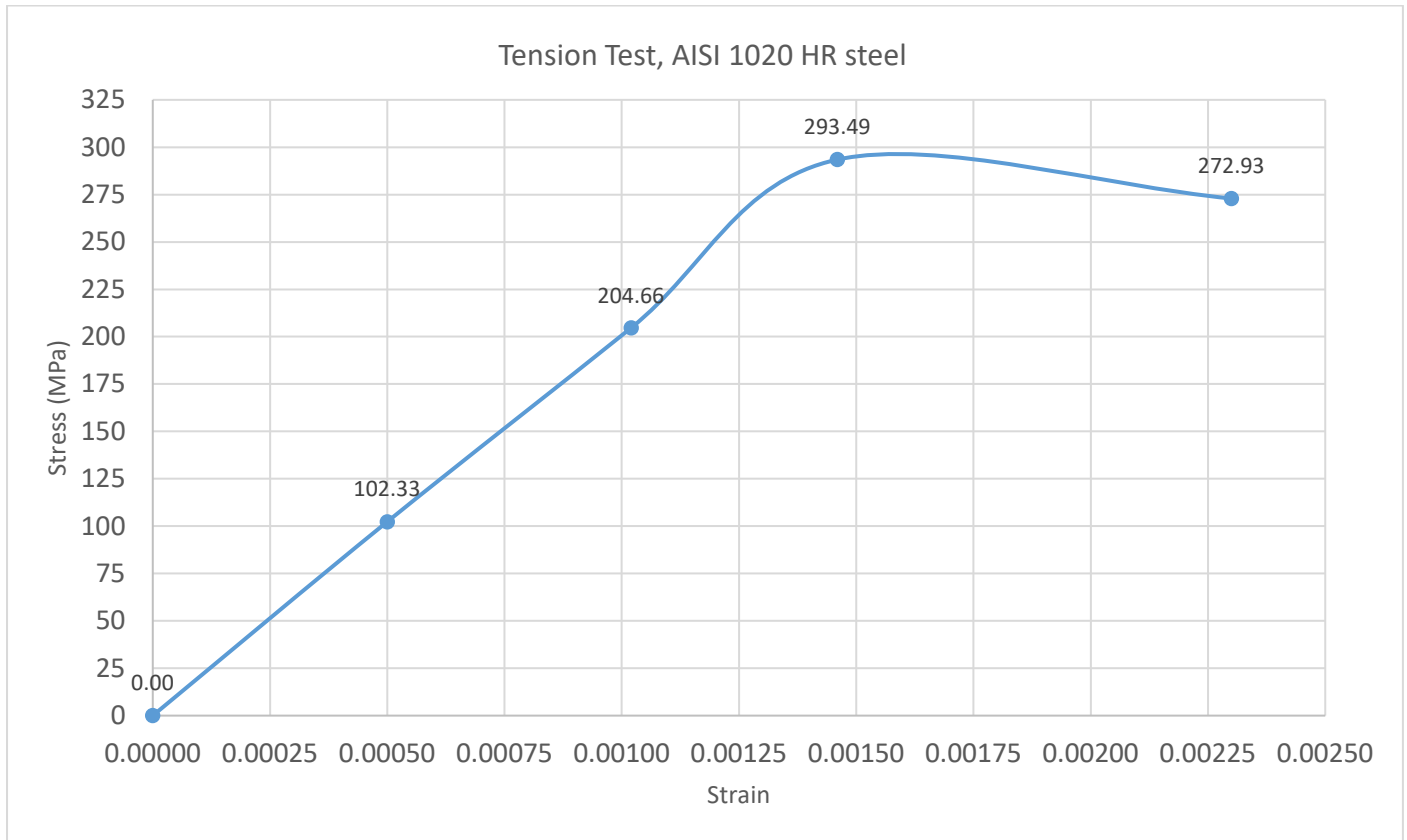

Figure 3: Elastic region and yield point
- Figure 3 shows a smaller strain scale (0 – 0.0025) use this graph to calculate Young's Modulus
1. Young's modulus, (E , GPa) (modulus of elasticity): use Figure 3.